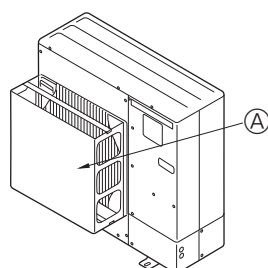

Fig. 1-3
- ② Install an optional air guide if the unit is installed in a location where strong winds such as a typhoon, etc. may directly blow to the air outlet. (Fig. 1-3)